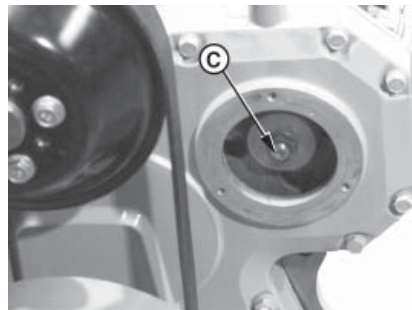

Figure 24 Reproduced by permission of Deere & Company, c.2005. Deere & Company, All rights reserved.
7. Push pump drive gear firmly onto shaft taper. Install washer and retaining nut (Figure 24-C) onto end of shaft. Tighten retaining nut to 90 lb-ft. (122 N•m) for DB2, 150 lb-ft. (203 N•m) for DB4.